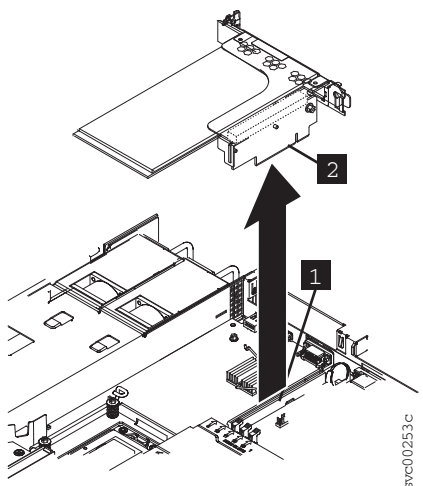

Figure 217. Removing the 10 Gbps Ethernet riser-card assembly
5. After removing the back-rail retaining screws for the Ethernet riser-card assembly, grasp the Ethernet riser-card assembly at either end and pull up out of the PCI slot 2 riser-card connector, as shown in Figure 217 on page 262. Once the Ethernet riser-card assembly clears the connector, gently twist the Ethernet riser-card assembly to separate the Ethernet riser-card assembly from the node.